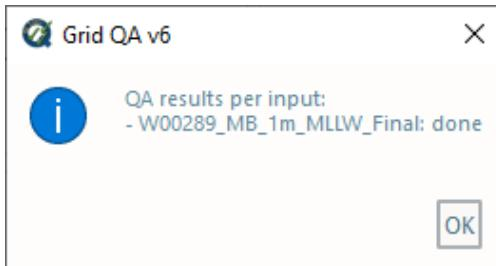

Fig. 2.29: The output message at the end of **Grid QA v5** execution.
- After computing, the output window opens automatically, and the results are shown (Fig. 2.29).